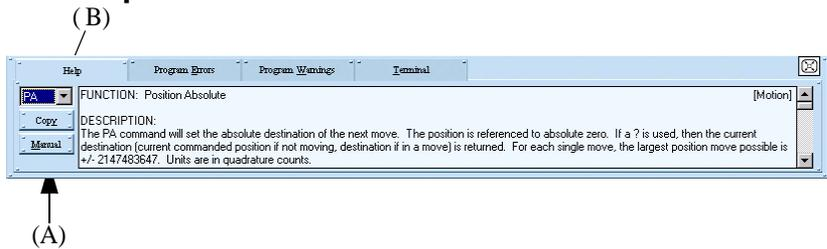

Figure 11: SMC HelpWindow.
2. A description for any command can be viewed by entering the two letter command in the Keywords box (Figure 11). By clicking on the **down arrow** (located next to the box) a list of available commands will appear. Select the desired command. Scroll up and down the list with the vertical scroll bar (located next to the list) to view keywords.